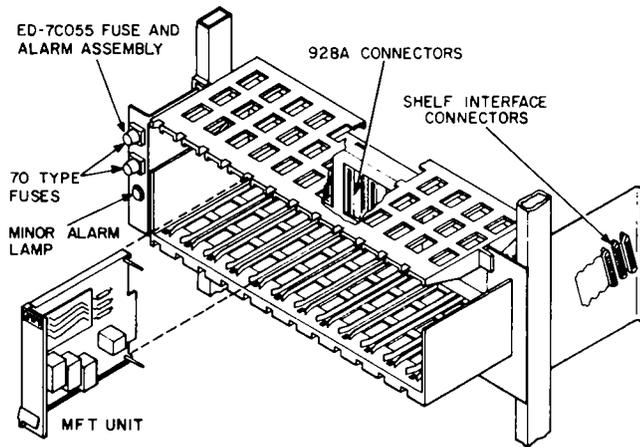

Fig. 21—Single-Module Shelf (J99380A) or Double-Module Shelf (J99380E)
6.28 The single-module shelf (J99380A) is used when transmission only is required. A shelf which may be wired for use as a single-module or double-module shelf (J99380E) is shown in Fig. 21. Interconnection information for the single-module shelf and DIMENSION PBX is shown in Fig. 22.
6.29 When both transmission and signaling treatment are required, the double shelf is used. The shelf in Fig. 21 can be used for the double arrangement when it is wired for this purpose. Interconnection information for the double-module shelf and DIMENSION PBX is shown in Fig. 23.